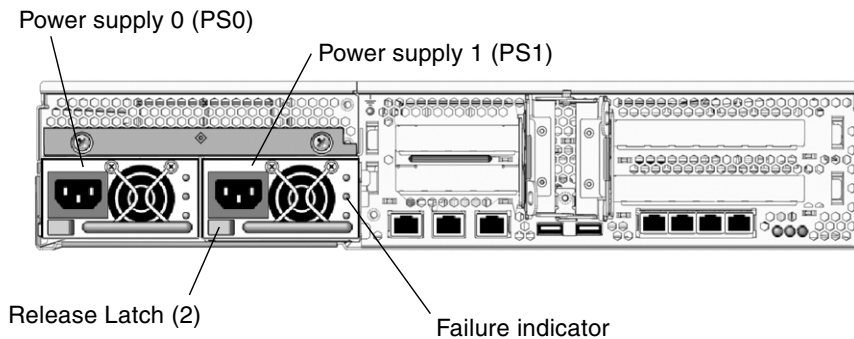

FIGURE 2-6 Location of the Power Supplies and Release Latches
- Failure indicator on the faulty power supply (FIGURE 2-6)
1. **Identify which power supply (0 or 1) requires replacement** (FIGURE 2-6).